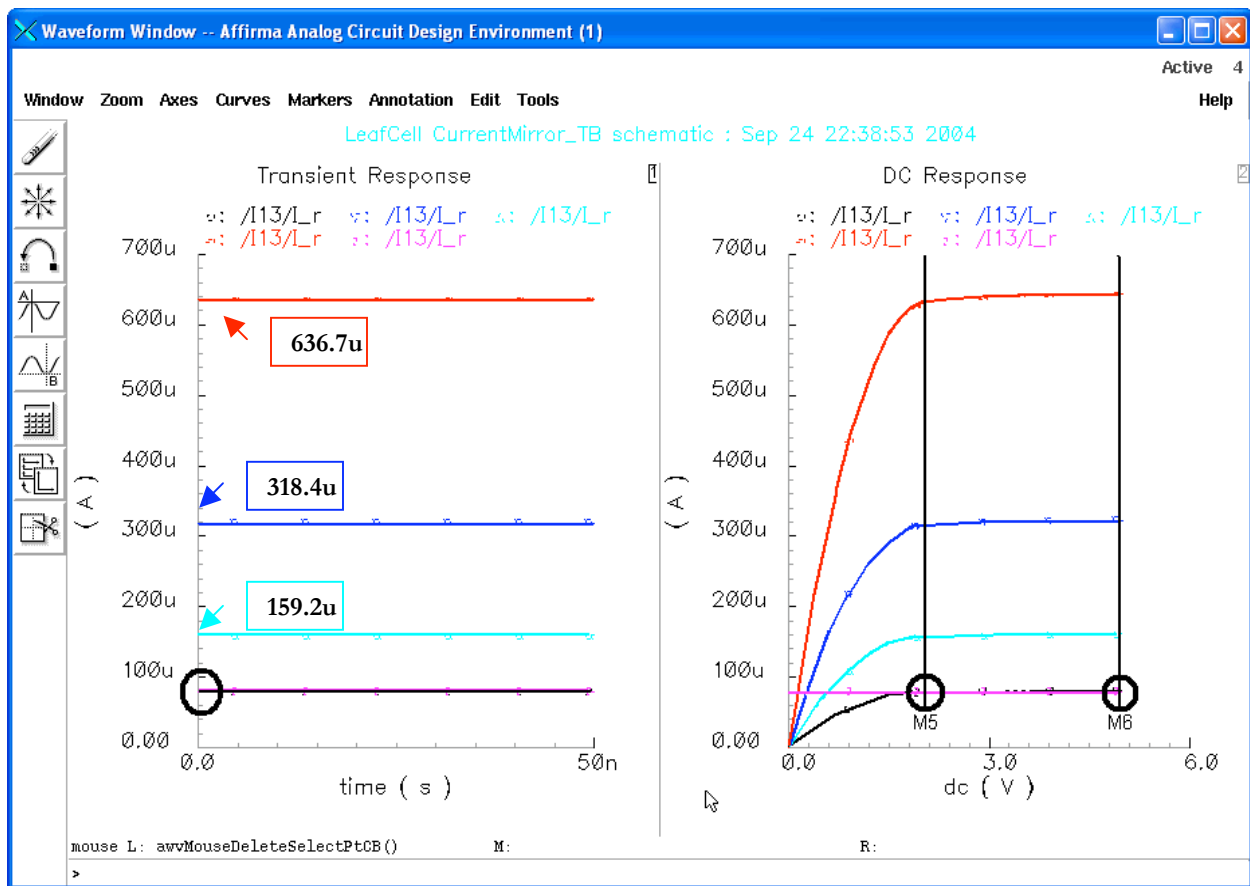

Figure 106: Post Extracted Simulation results.
7. Go to **Simulation...Run...** to start the simulation. This will take a while. A *Graphics* window will pop up showing the simulation results (Figure 106).